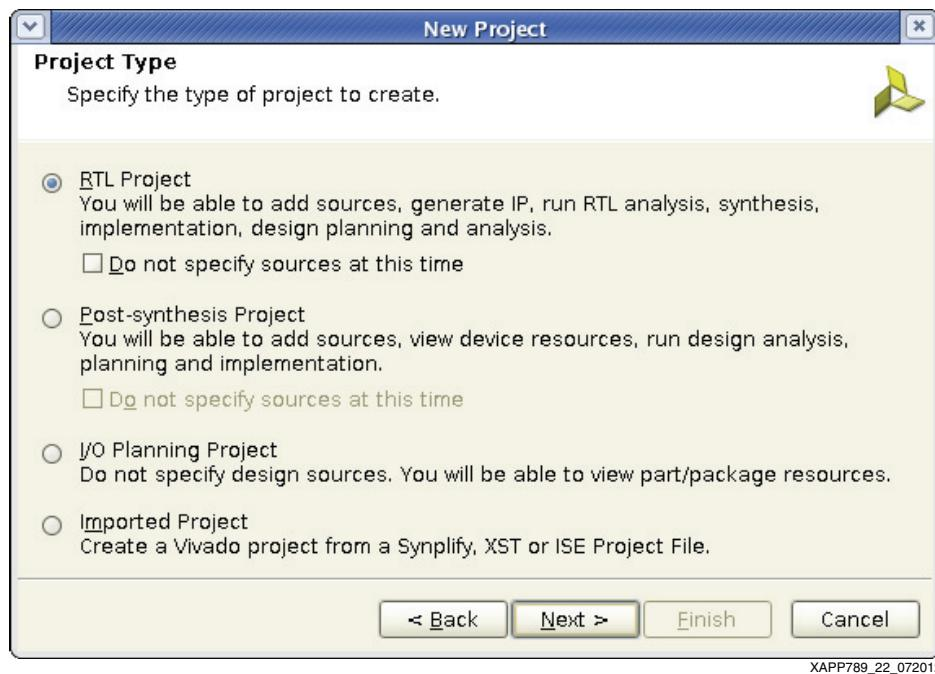

Figure 22: New Project Window (Project Type)
7. Select **RTL Project** in the Project Type window (Figure 22).